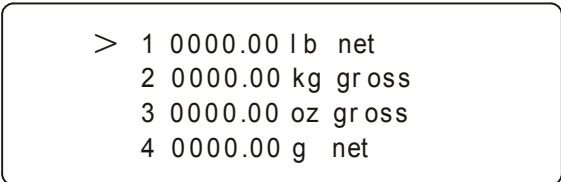

FIG. 3-24 MAIN MENU
Step 1. From the Summary Display press the up or down arrow buttons until the cursor is in front channel Rate of Change you want to view. In our example we selected Channel 1. (See Fig. 3-24)